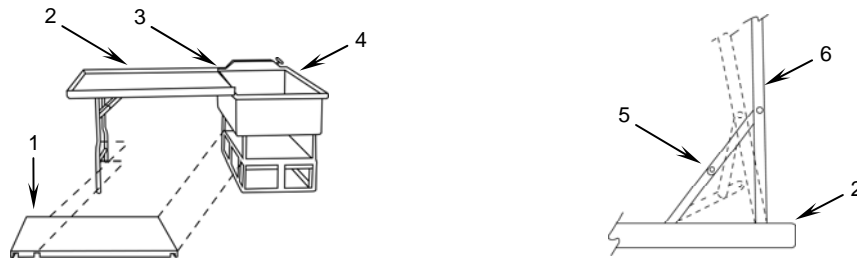

Figure 11. Disassembling the Drain Table.
- a. Remove shelf (**Figure 11, Item 1**).
- b. Detach the drain table (**Figure 11, Item 2**) from the rim (**Figure 11, Item 3**) of the sink assembly (**Figure 11, Item 4**).
- c. Turn the drain table (**Figure 11, Item 2**) upside down and push the linkage (**Figure 11, Item 5**) in from its fully extended position. Fold the table legs (**Figure 11, Item 6**).